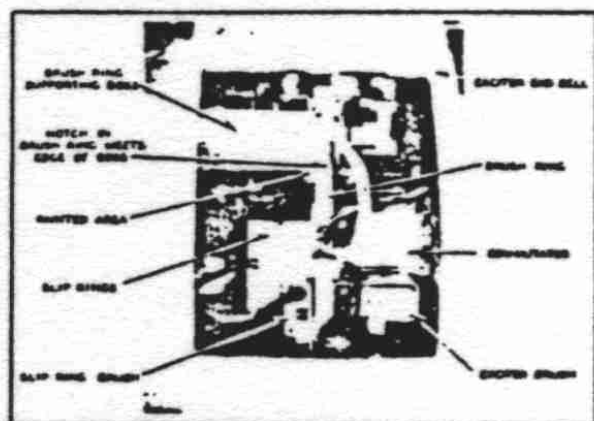

FIG. 39 NEUTRAL POSITION OF EXCITER BRUSHES
(4) **Neutral Position of Exciter Brushes.**—The edge of the exciter brush ring has a small indentation that coincides with the edge of supporting boss when the ring is in proper neutral position. See (Fig. 39). This spot is marked with yellow paint on both the ring and the support boss. This setting of the brush ring in neutral position should be maintained.